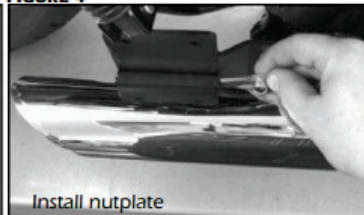

FIGURE 5
11. Align heat shield tips so that muffler bodies protrude 1/4" (Figure 5). Tighten all heat shield clamps.